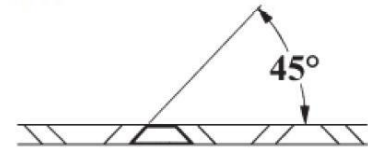

Fig. 12b
- Sharpen the blade, if necessary. (Fig. 12b)